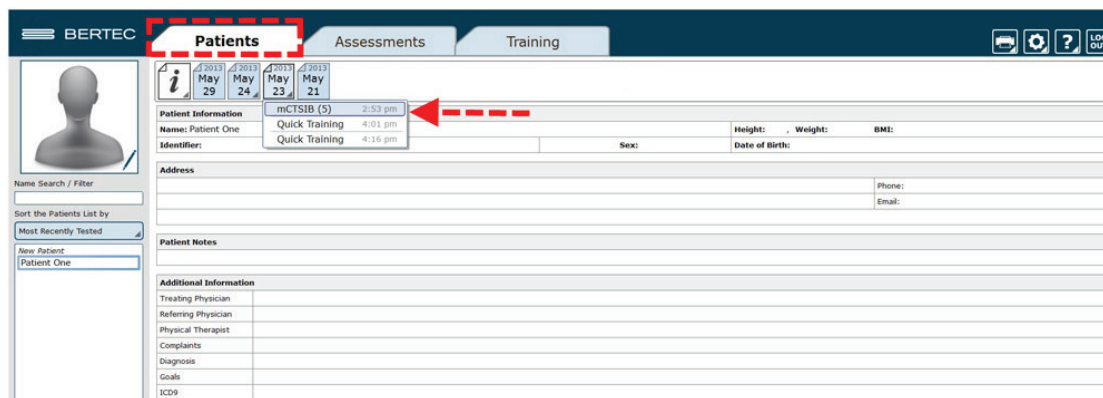

Figure 20: Return to Patient Screen to View Test Reports
4. Progress reports can be viewed by returning to the Patients tab, shown in Figure 20.